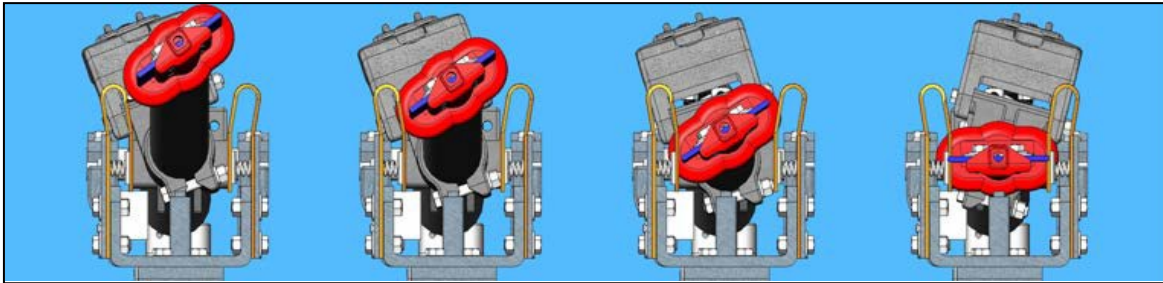

Figure 6: Blade Tip Travel
- 2.1.3. The blade tip must come down into the jaw in its center, without dragging on either side as shown in **Figure 6**. Use the jack screws that support the jaw insulator to tilt the insulator sideways, if necessary to ensure this condition.